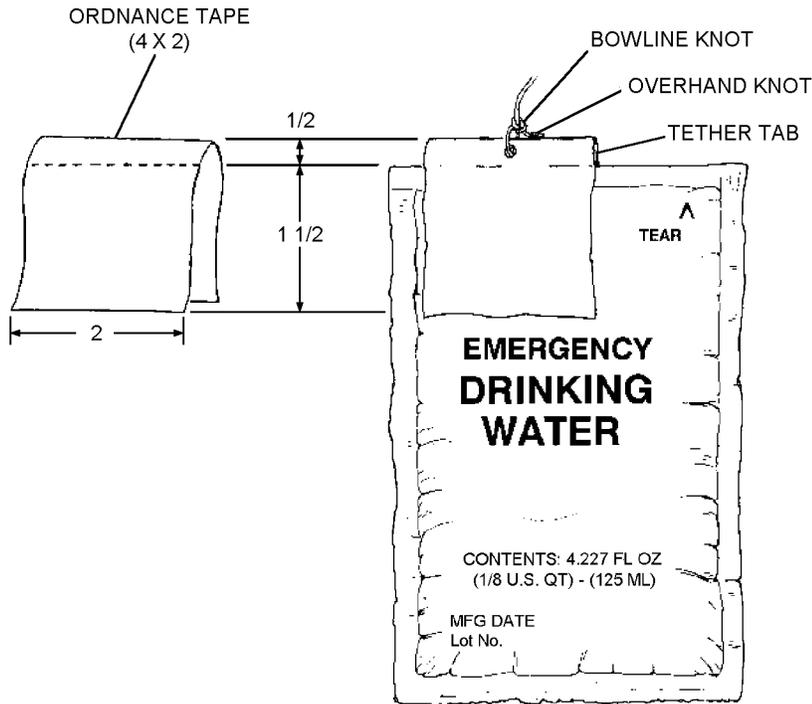

Figure 9-9. Tethering Tab for 4-Oz. Bagged Water
3. Fold tape 1/2 inch above top edge of bag down over back of bag to extend 1 1/2 inches from top edge of bag and press tape against bag. This will leave a 1/2 x 2 inch double portion of tape extending above top edge to serve as a tethering tab (figure 9-9).